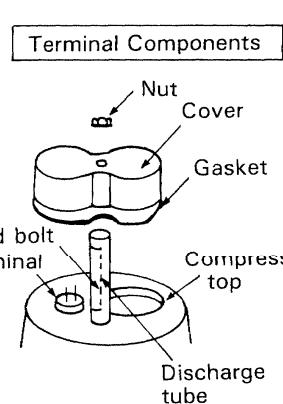

Fig. 20
- 2) Remove the cabinet according to the disassembly procedure of the outdoor unit. Refer to Page 53. Furthermore remove the terminal cover at the top of the compressor and remove the wiring of the compressor terminal. Fig. 20.